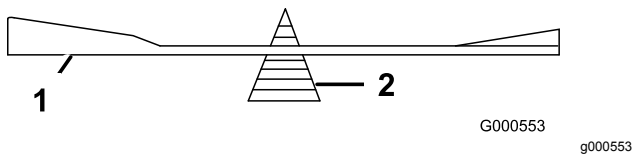

Figure 54
2. Check the balance of the blade by putting it on a blade balancer (Figure 54).